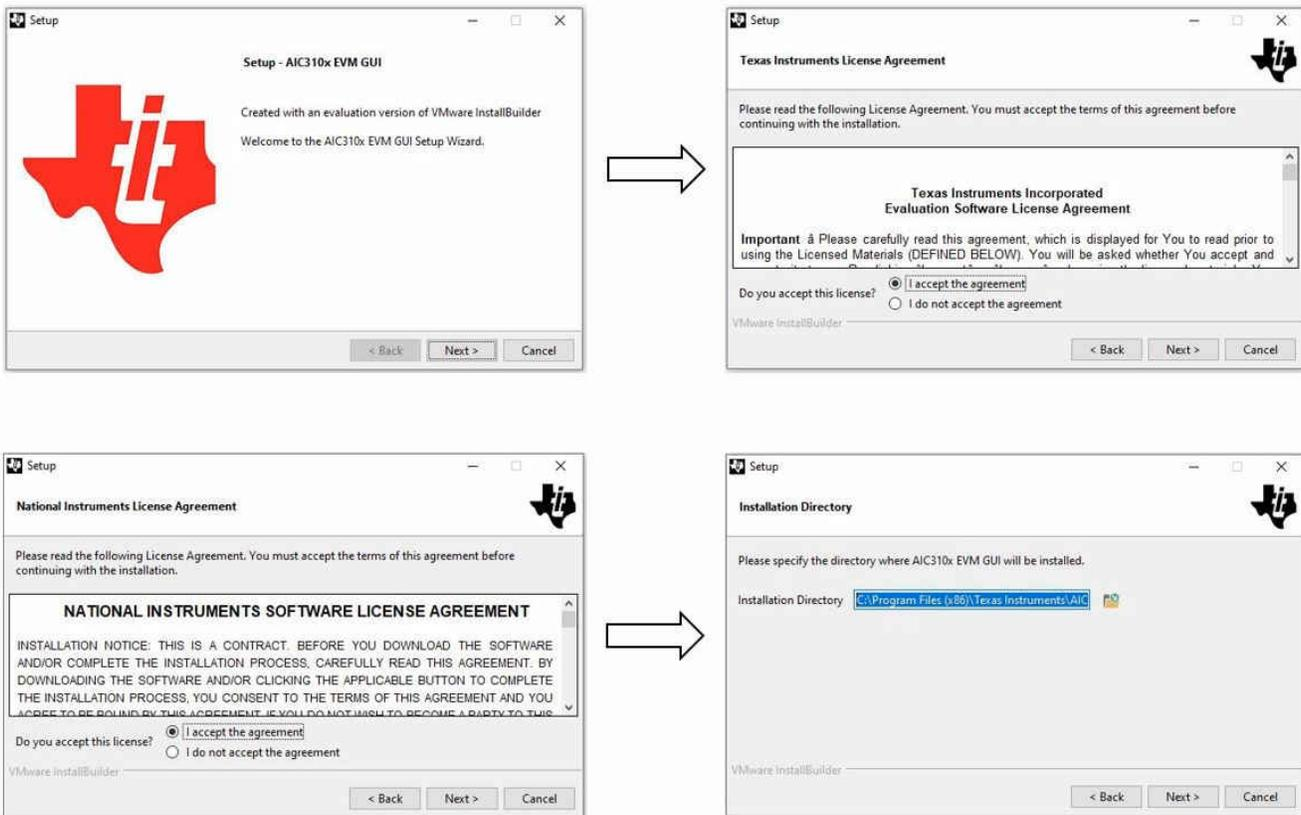

Figure 1-1. AIC310x Control Software Setup
4. After running the executable, the TLV320AIC310xEVM control software setup begins. Follow the prompts in the pop-up window, accept the license agreements, and choose an installation directory. Figure 1-1 shows this process.